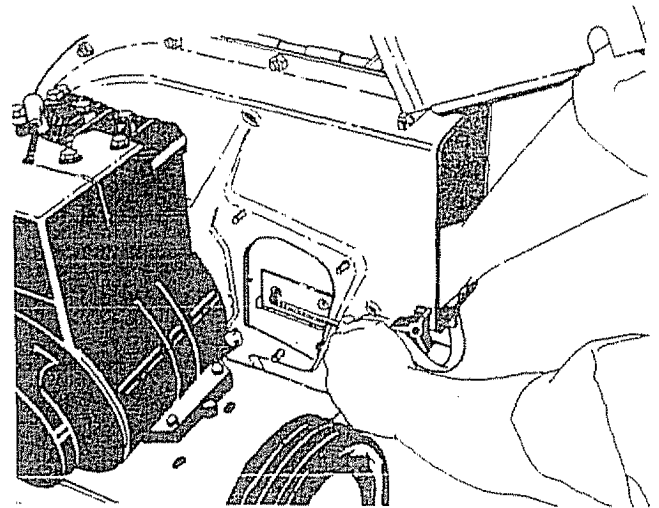

FIGURE 19.
- Rotate the impeller assembly by hand until you locate one of the chipper blades in the chipper chute opening. Remove the blade, using a 3/16" allen wrench on the outside of the blade and 1/2" wrench on the impeller assembly (inside the housing). See figure 19
Make certain blades are reassembled with the sharp edge facing the direction shown in figure 19 (sharp edge is assembled toward the slotted opening in the impeller assembly).